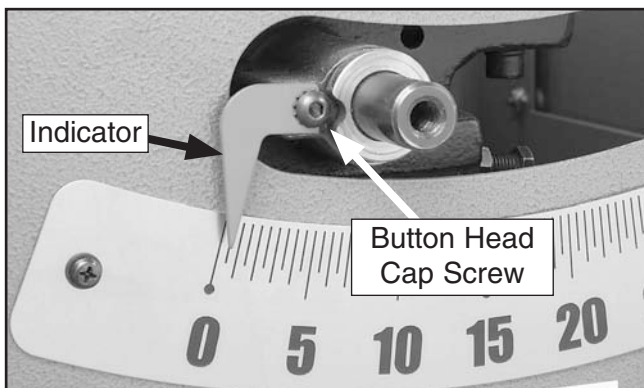

Figure 74. Tilt indicator arrow.
- Loosen the button head cap screw shown in **Figure 74** and move the tip of the indicator to 0°.